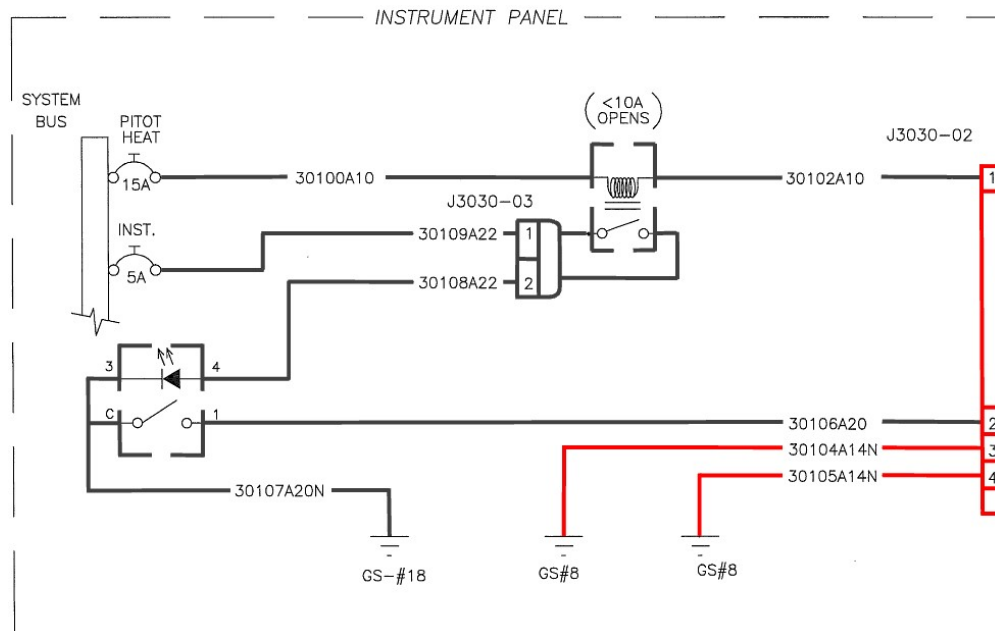

Figure 18: Instrument Panel Schematic highlighting the Fuselage Connection
- 11.2.4 Follow the instructions below to assemble the wire connection for the instrument panel to the fuselage, as shown in Figure 18.